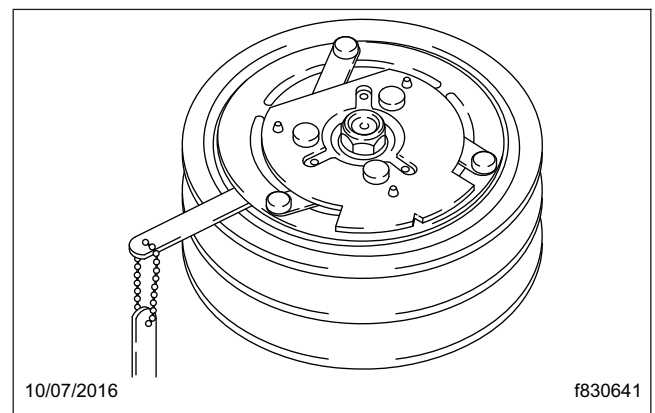

Fig. 1, Drive Plate Clearance Inspection
4. On a Sanden refrigerant compressor, use a feeler gauge to check that the drive plate clutch clearance is 0.016 to 0.031 inch (0.40 to 0.78 mm). See Fig. 1. If the drive plate clutch requires adjustment, see **Section 83.01, Subject 140** of the *Century Class Trucks Workshop Manual*.